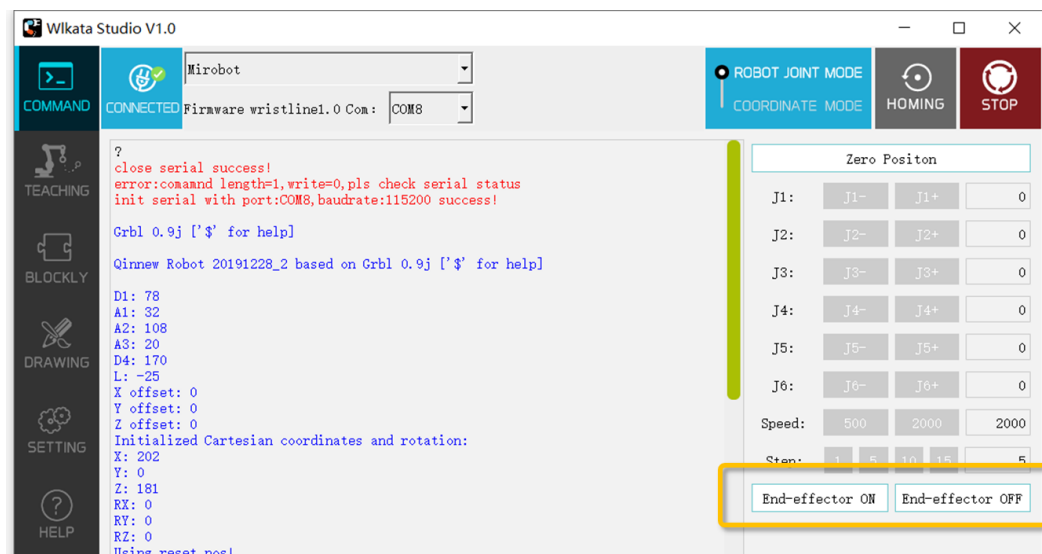

Figure 3.31 Controlling the gripper in the COMMAND function
- In the COMMAND page, control the gripper by click the **End-effect on** and **End-effector off** buttons on the right panel. Figure 3.31
- In the COMMAND page, control the pneumatic tool by click the **End-effect on** and **End-effector off** buttons on the right panel. Figure 3.31